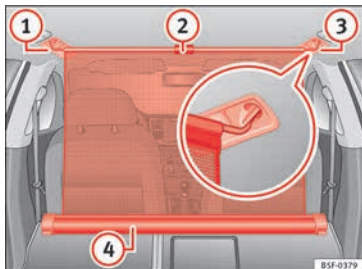

Fig. 169 In the luggage compartment: net partition hooked into the rear seat backrests.
- Pull up handle » **Fig. 169 ②** to remove the net from the casing » **Fig. 169 ④**.
- Hook in the net partition on the right side » **Fig. 169 ③** (magnified image).
- Hook in the net partition in the left side housing » **Fig. 169 ①** pulling the rod.
The net partition is properly assembled when the T-shaped ends are firmly secured in the corresponding housings » **Fig. 169 ③** and **①**.
- Roll up the net into the casing » **Fig. 169 ④** lowering it with your hand.